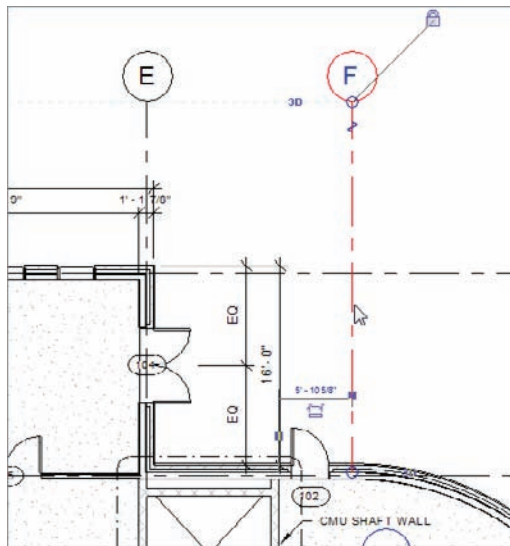

FIGURE 8.18 Adding grid F
9. Pick a start point at the endpoint of the radial wall, where it intersects with the straight wall, as shown near the bottom of Figure 8.18.
10. Pick the second point in line with the adjacent grid bubbles (see Figure 8.18).